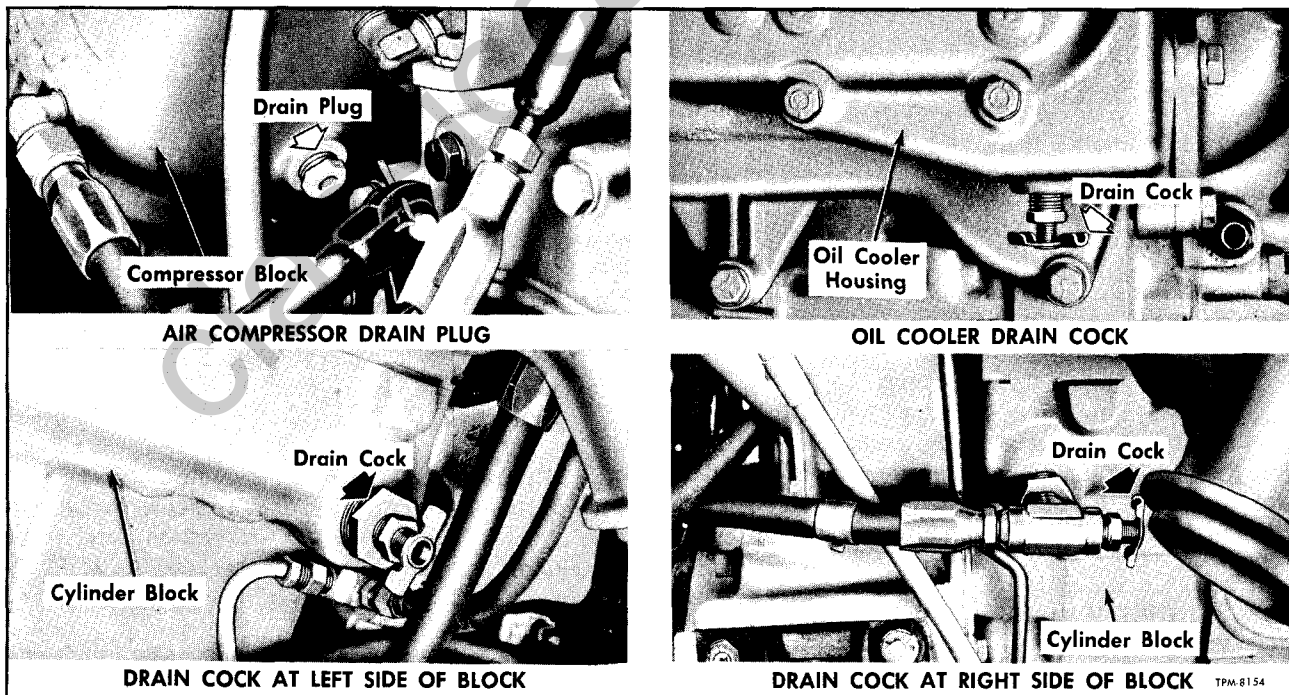

Figure 6—Drain Points on 8V-71 Diesel Engine (Typical)
- b. On all 8V engine models, open drain cock at each side of engine cylinder block (Lower Views, fig. 6). At right side of engine, open drain cock at bottom of engine oil cooler (Upper Right View, fig. 6).